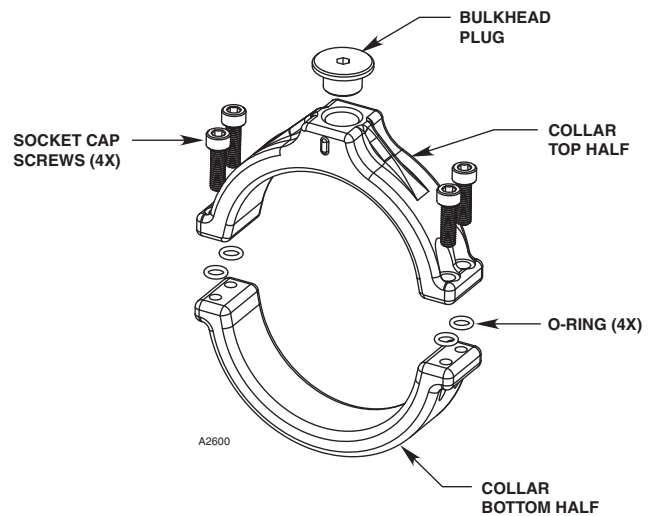

Figure 4—Collar Attachment Assembly, part #011385-001 shown
- The Collar Attachment assembly is made up of two halves — one installed on top, and the other under the detector bulkhead. With the four socket cap screws (provided) held in place with O-rings as shown in Figure 4, place the top half in position on the detector. Then place the bottom half under the detector and tighten the screws using a 5 mm hex wrench (not included). Do not fully tighten the screws at this time.